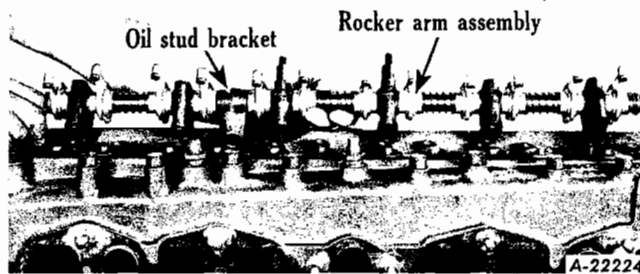

Fig. 3 - Removing Rocker Arm Assembly
- Remove rocker-arm assembly as a unit (Fig. 3).